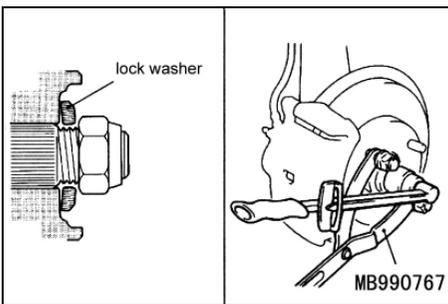

Fig.12-9
(2) **Drive shaft nut and washer installation(see Fig.12-9)**